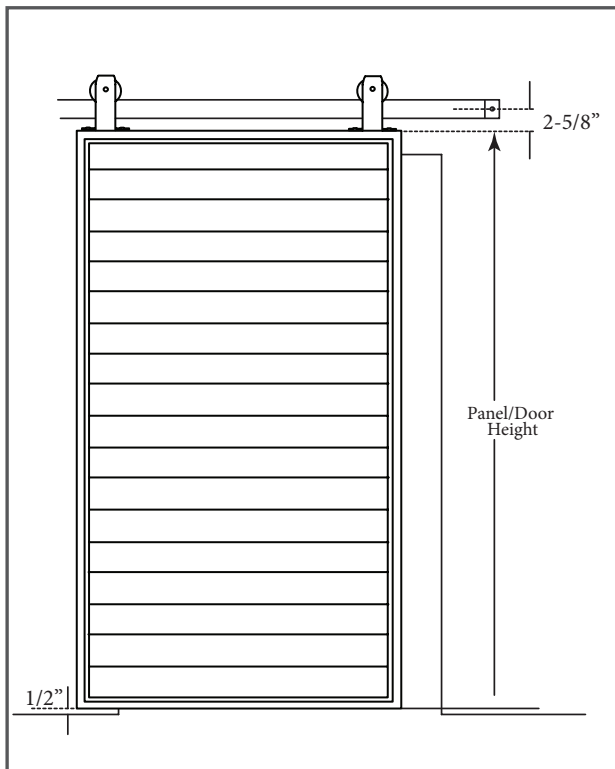

Figure 1
1. To determine where the track should be installed, first measure the height of the door, then add 3-1/8" door height. 1/2" will be for the clearance between the bottom edge of the door and the floor. 2-5/8" will be from the top edge of the door to the center of the track. (Figure 1).